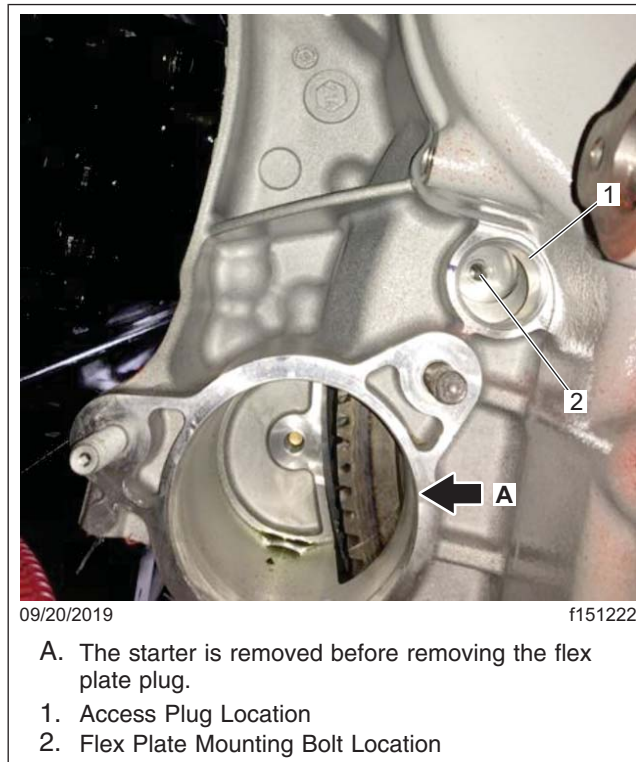

Fig. 3, Removing the Flex Plate Access Plug
6. Remove the flex plate access plug. See Fig. 3.